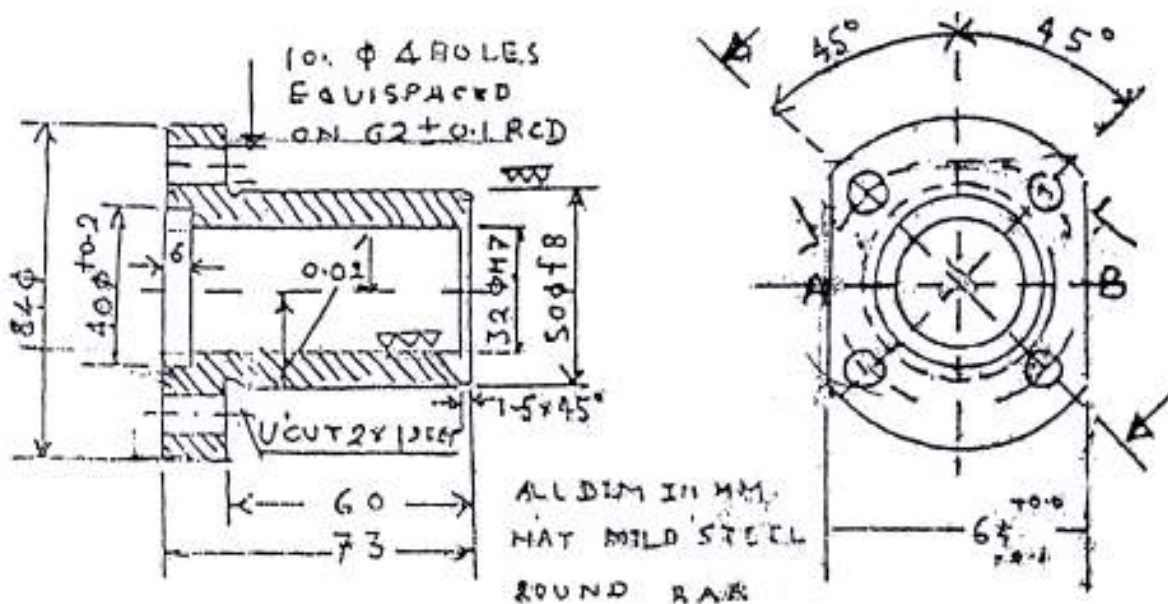

Fig. No. 1
- 11. Design a jig for drilling ϕ 10 mm holes for a component shown in fig.no.1. 20
- 12. Design a milling fixture to mill at face A & B for a component shown in fig. no. 1. Draw minimum two views of your design, show the component in position, name all important elements in drawing, write a part list of your design and draw detail view for locating, clamping and bushing. 20